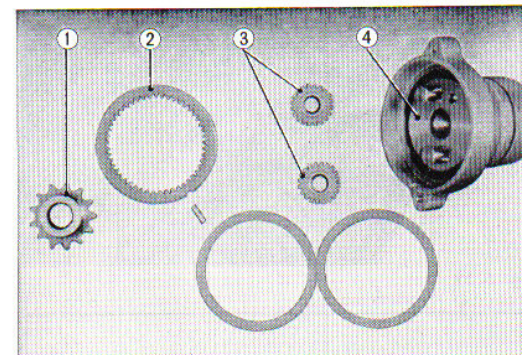

Fig. 5.57 Starter reduction gear component
3. Check for adequate lubricant in the gear case (Fig. 5.57~5.58)